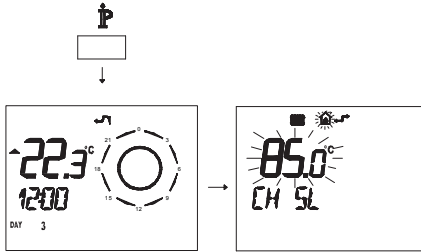

Fig. 7.40
- Press button  for more than 3 seconds to enter in **INFO** mode (Fig. 7.40).